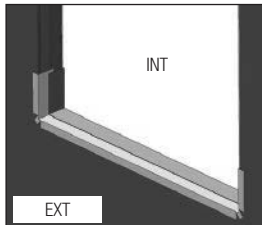

FIG. 8
- F) Flashing tape must cover the entire sill plate. If needed, apply an additional flashing piece over the first one (start from the exterior and work toward the interior). Maintain a minimum 1" overlap. (Fig. 8)